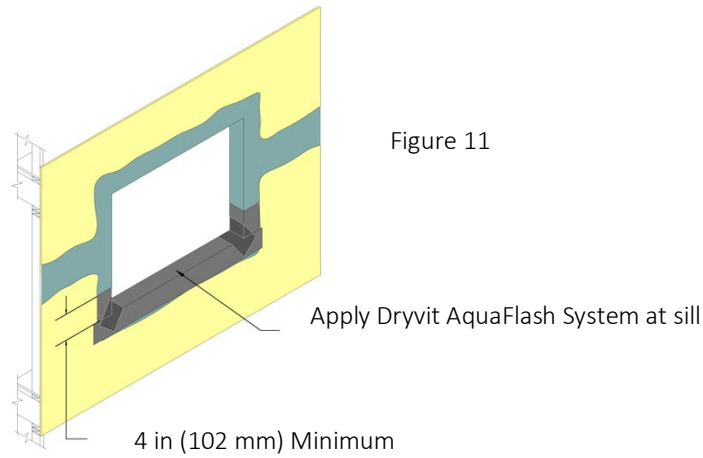

Figure 11
- 3) Apply Dryvit AquaFlash System at sill in accordance with Sections 4.A.3. **NOTE: AquaFlash System must extend up the jambs a minimum of 4 in (102 mm) – Figure 11.**